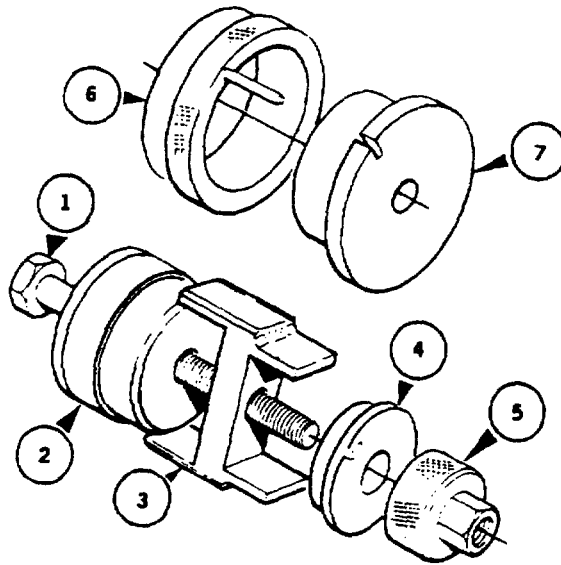

FIGURE 3-41. Main Bearing Tool
- g. Remove thrust bearing (5).
- i. Using suitable driver, drive oil seal (6) from housing (3) taking care not to damage bearing (7).
- j. Remove bearing (7) from housing (3) as follows:
- (1) Mount housing (3) in a soft-jawed vice.
- (2) Place bolt of main bearing tool (317-50111) through plain dolly. Refer to FIGURE 3-41.